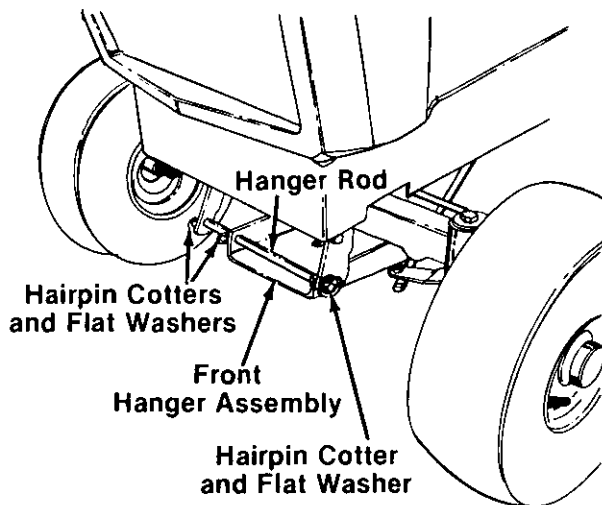

FIGURE 37.
**36-inch deck**—assemble the front hanger assembly to the tractor as shown in figure 37.